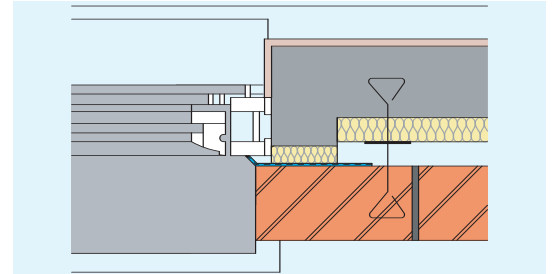

Figure 2 Plan view at jamb, showing Rockwool Rockclose with Aluminium frame in rebated 'check' reveal.
- 2 Vertical DPCs at wall openings should project at least 25 mm into the cavity (Fig 2).